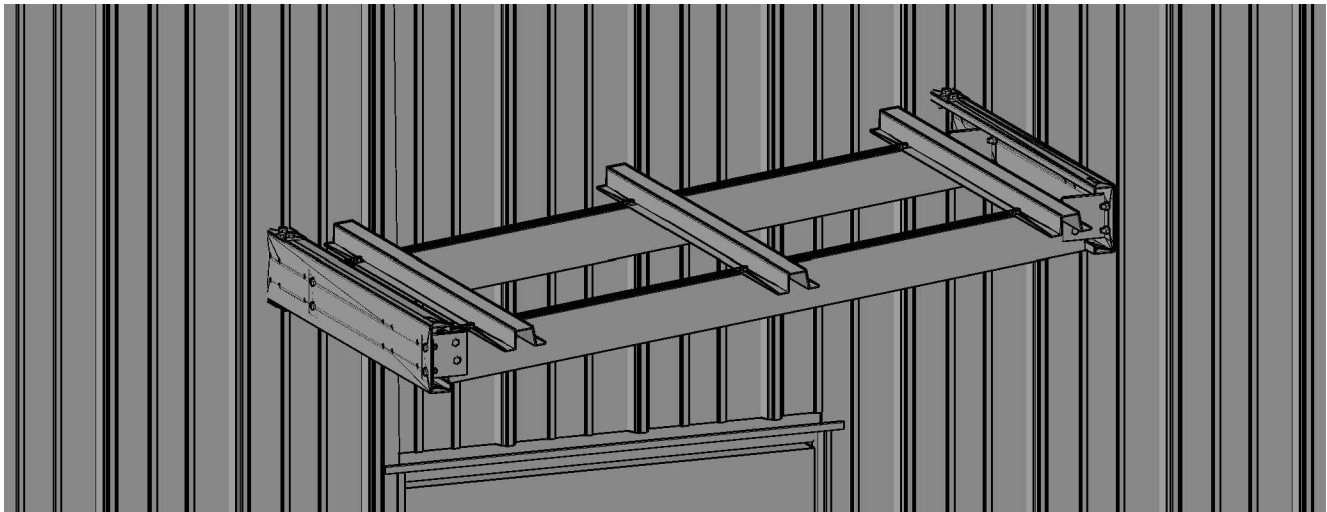

FIGURE 9
- a. **Gable Channels** - Attach (4) gable channels(S-004-GV) as shown in **Figure 9**. Attach to Horizontal Channels using (2) Connection Clips (SC-015-GV) and $\frac{1}{4}$ " bolt/nuts. **Note holes for purlin attachment must be on top of Gable Channels.**
- b. **Hat Purlins** - Attach (3) Hat Purlins (S-005-GV) to the Gable Channels using $\frac{1}{4}$ " bolts/nuts. If necessary, use a channel lock pliers to squeeze the Hat Purlins to allow the holes to line up. See **Figure 9** for a completed FLS frame. **Purlins are not punched symmetrically, shorter cantilever toward wall.**